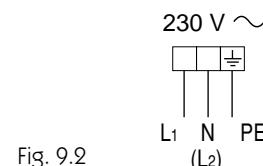

Fig. 9.2
- Connect the phase and earth cables to the terminal block “B” according to the diagram in figure 9.2.